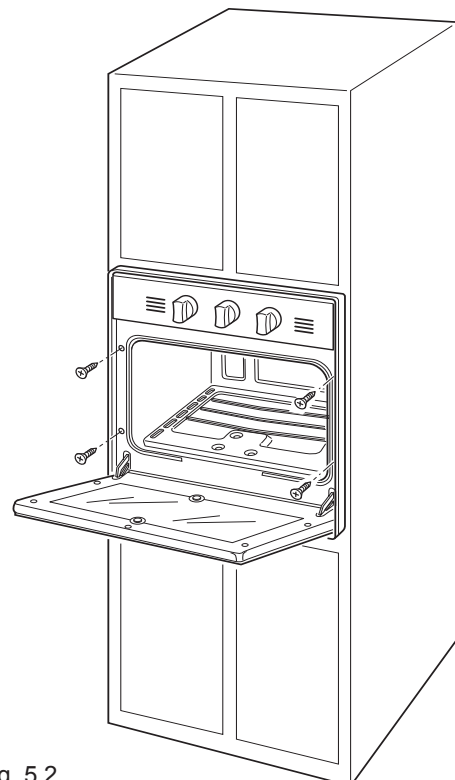

Fig. 5.2
For **SAFETY CONSIDERATIONS** the oven **SHALL BE FASTENED** to the cabinet with four (4) **SUITABLE** screws (not supplied with the unit) through the holes in the trim (see fig. 5.2). The unit should be leveled properly before being secured to the cabinet.